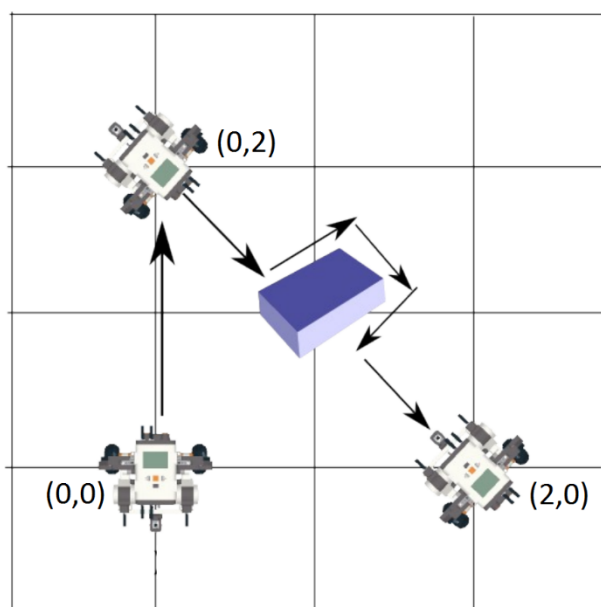

Figure 3. Example robot path 2.
4. Modify the program to avoid any obstacles encountered along the robot's path. For example, if the robot was travelling from (0,2) to (2,0), it should avoid the obstacle along the path and still reach (2,0) as shown in **Figure 3** below.